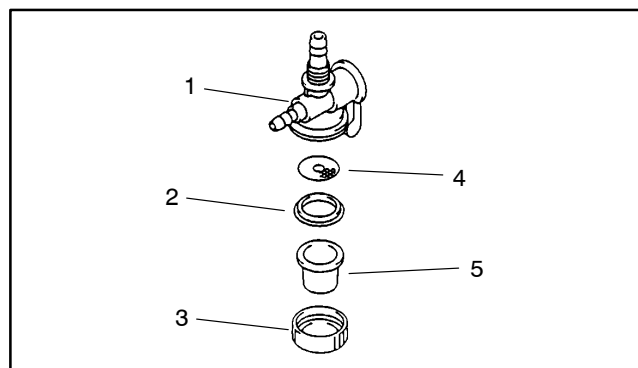

Figure 9
1. Close fuel shut-off valve and unscrew nut from the shut-off valve body. Remove sediment bowl, gasket, and filter element (Fig. 9).